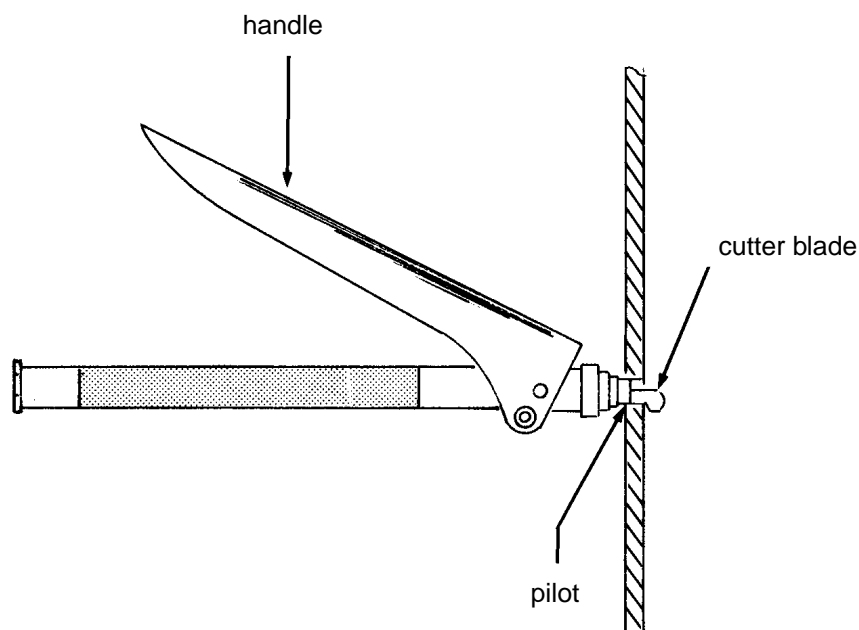

Figure 4 - Keyway Cutting Tool
5.2.4 If the engineering drawing specifies the use of keyed type Rivnuts, after drilling to final size cut a keyway in the hole using the keyway cutting tool specified in Table 6 (see Figure 4) as follows: